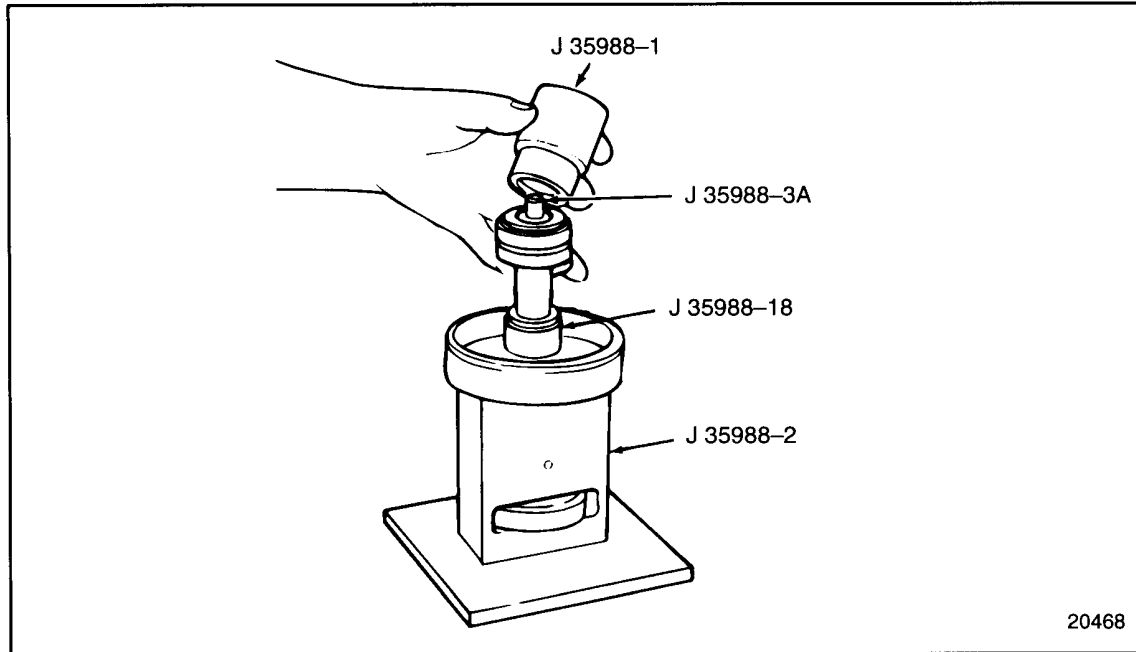

Figure 4-14 Bearing Installation
5. Center the small end of tool J 35988-1 part of J 35998-B, part of tool set J 35988-B, on the bearing inner race. See Figure 4-14. Press the bearing pack onto the shaft until it contacts the shoulder of the shaft. Remove the tool used to pilot the bearings.